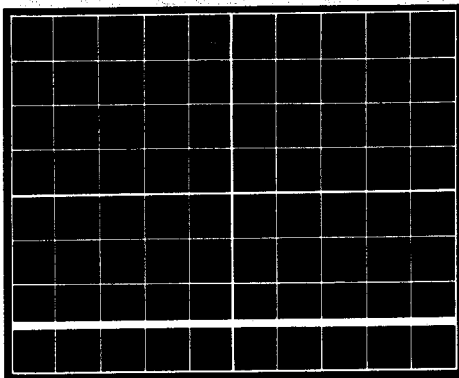
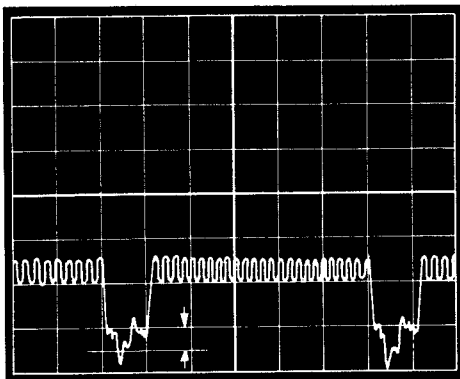
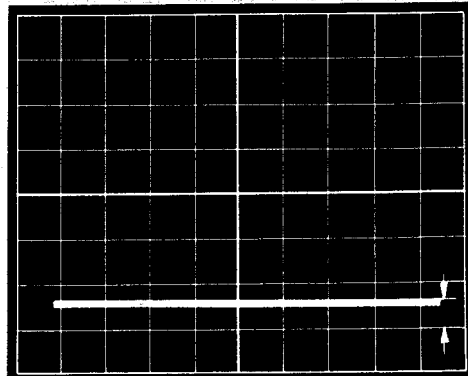

Fig. 5-2
Fig. 5-3 Sync tip level shift
Fig. 5-4 Clamp level
- e. Check to see that the sync tip of the composite signal sinks below the second division (See Fig. 5-2) by approx. 0.5 V. Measure the exact voltage by which the sync tip sinks below the champ reference level set in Step 7-c (Fig. 5-2). See Fig. 5-3.
- g. Adjust scope STABILITY to observe a horizontal trace on the same position as seen on Fig. 5-2.
- h. Adjust R128 so that the horizontal trace on the scope moves up by the voltage measured in Step 7-e (Fig. 5-3). See Fig. 5-4.